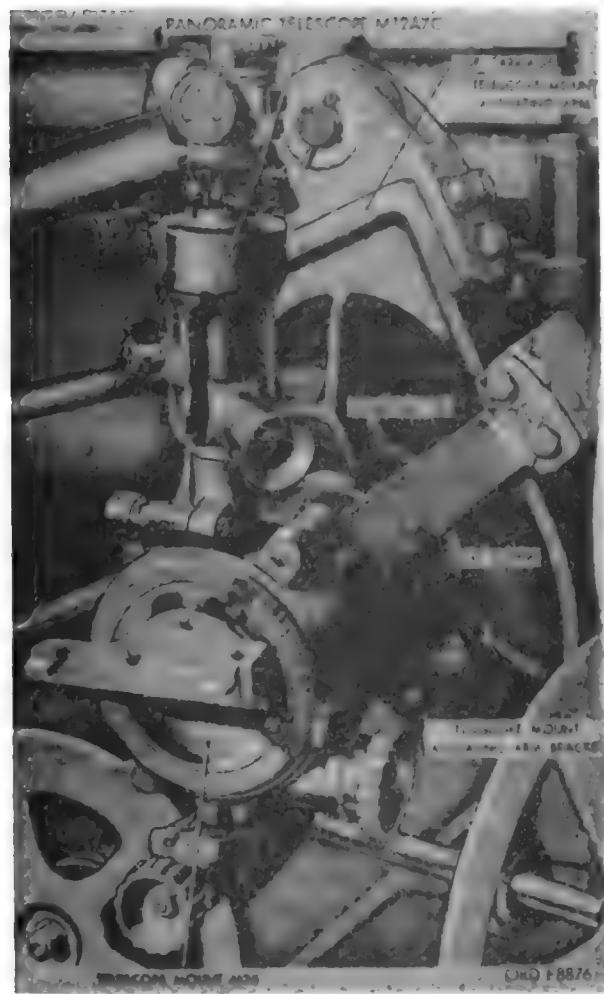

Figure 170. Telescope mount M25 with panoramic telescope M13A7C in place on carriage M1A1 or M1A2.
- (4) If the quadrant level vial bubble does not center, loosen the two cap screws (fig. 170) (which fasten the actuating arm bracket of the telescope mount to the actuating arm on the cradle), and center the quadrant bubble by turning the eccentric pin.
- (5) Tighten the cap screws, being careful to avoid throwing the quadrant bubble off center. Verify the